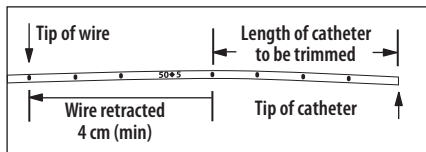

Figure 2
- Withdraw placement wire/stiffening stylet through septum to retract wire a minimum of 4 cm behind catheter cut location (refer to Figure 2).